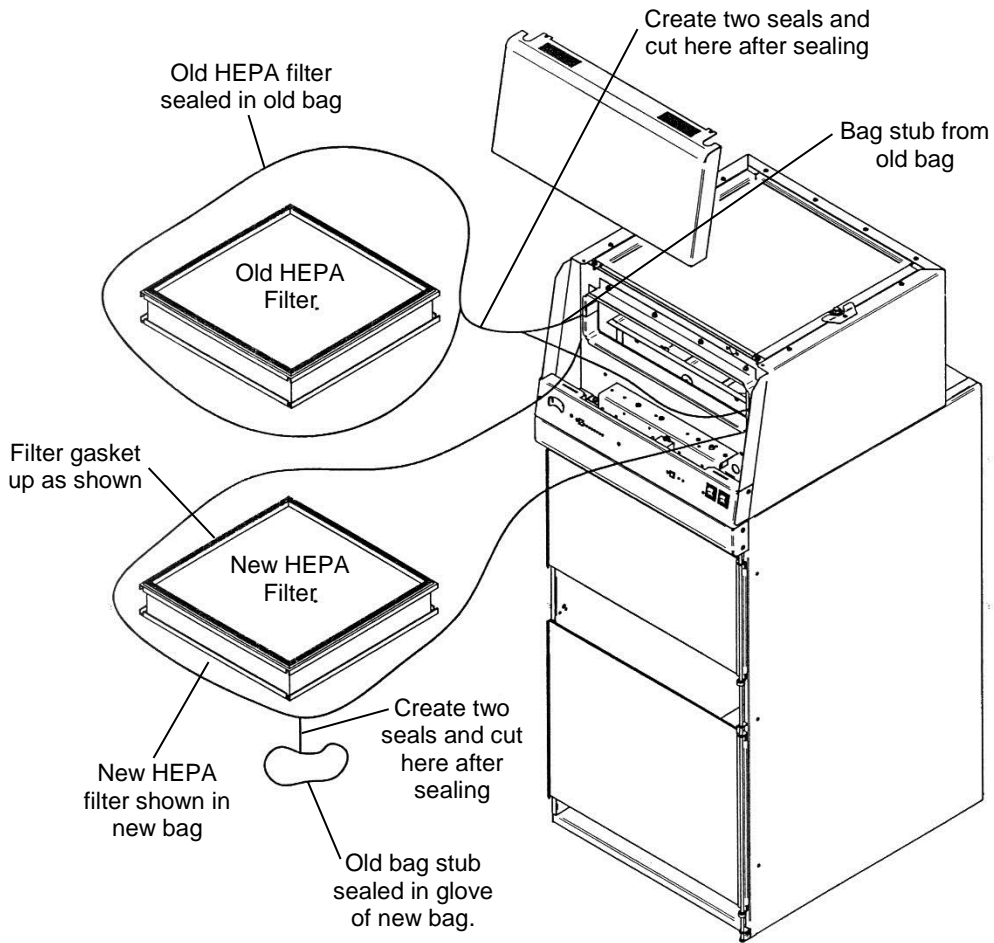

Figure 6-1
The TXE includes a true bag-in/bag-out filter disposal system for safely removing the HEPA filter and protect the worker from toxic powders and particulates. See Figures 6-1 for the Bag-In/Bag-Out Procedure. For your safety, wear appropriate personal protective equipment during the change of HEPA filters.
After installing the new HEPA filter, the HEPA filter should be leak checked. This test is performed to determine the integrity of the HEPA filter, the filter housing, and the filter mounting frames. Leak testing is to be done by a qualified technician with calibrated equipment. Remove the top perforated exhaust cover by using a Phillips screwdriver to unfasten the (2) screws used to secure (2) clips. See Figure 6-1. The filter passes the leak test at .01% or better. Reference Leak Testing and Photometer scanning from the Institute of Environmental Services (IES-RP-CC001.3)
1. Remove the front panel by loosening the (2) Phillips screws on top that secure the front panel.
2. The speed control is located on the electrical subassembly located behind the switched control panel and below the front panel. See Figure 6-1.